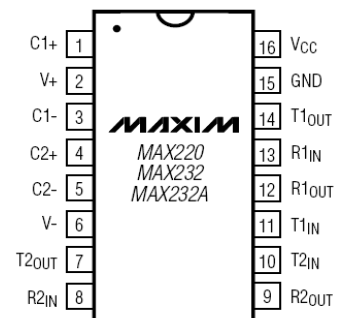

Figure 4: MAX232 Pin-out
- a. Align pin 1 (indicated by the dot on the IC package) with pin 1 of the socket. See figure 4. The notch between pins 1 and 16 will be aligned with the notch of the IC socket.